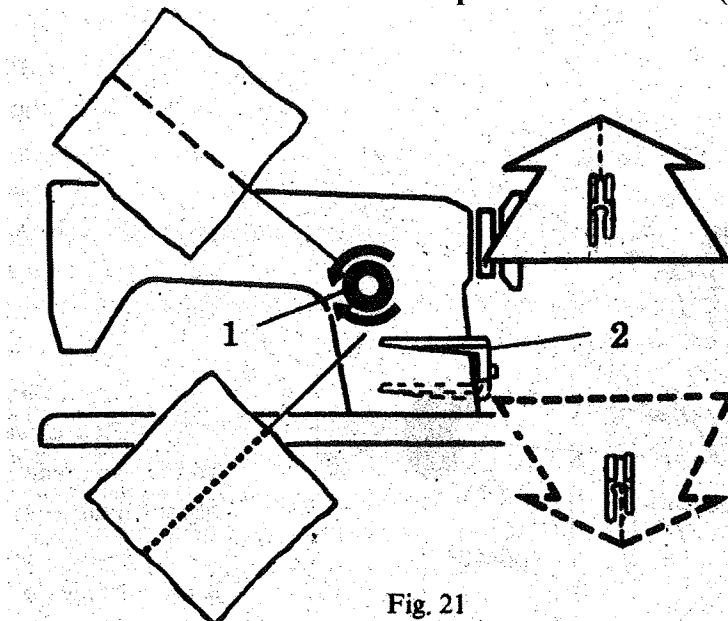

Fig. 21
8. Setting stitch length and reverse sewing (Fig. 21)